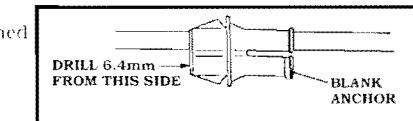

Figure 24
- This anchor is hollow except at one end. Use a **6.4mm (.25")** bit drill as shown in **Figure 24**.